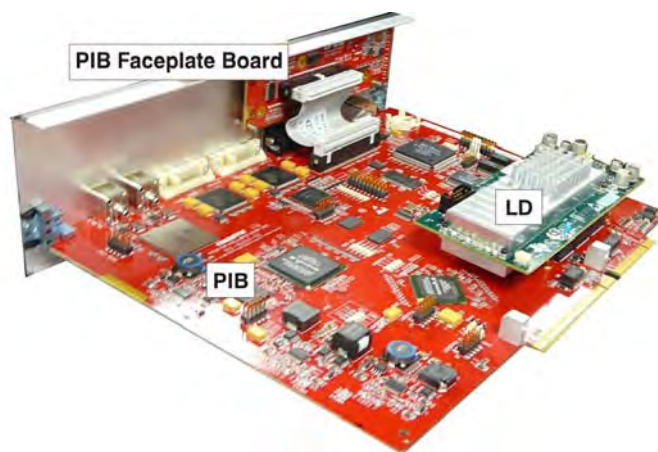

Figure 5-29 PIB, PIB Faceplate and LD
4. Pull the PIB assembly out of the cardcage (**Figure 5-29**).